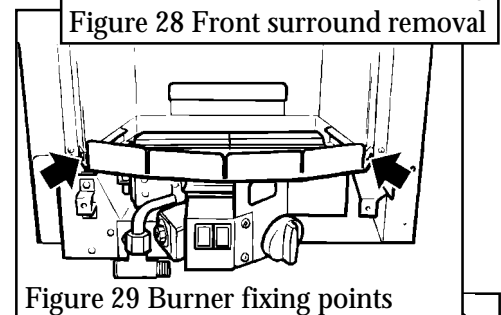

Figure 29 Burner fixing points
13.3.4 Detach the burner unit from the convection box by removing 2 screws (see figure 29). Carefully lift the burner unit forward making sure that the unit does not snag on any leads. Rest the burner on its front face to allow access to the pilot and gas tap.